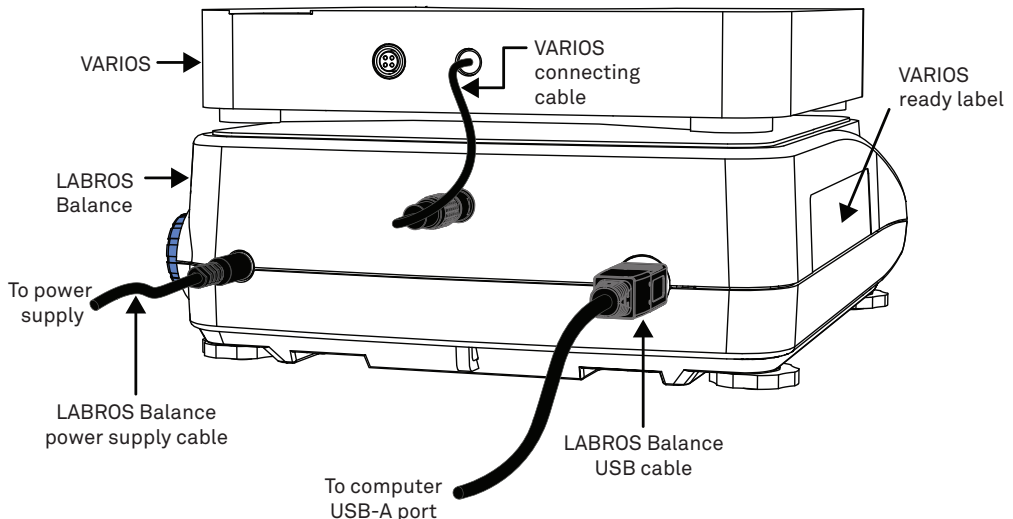

Figure 17 VARIOS setup for thermal dryout configuration back view
4. Plug the VARIOS connection cable on the back of the VARIOS into the connector (Figure 17).